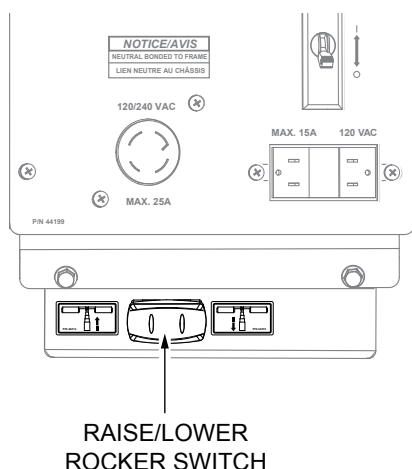

Figure 19. Mast Control Switch - Raising
2. To extend the mast, press down on the left side of the **mast control switch** (Figure 19) below the control box. Observe that the mast begins to extend upwards.